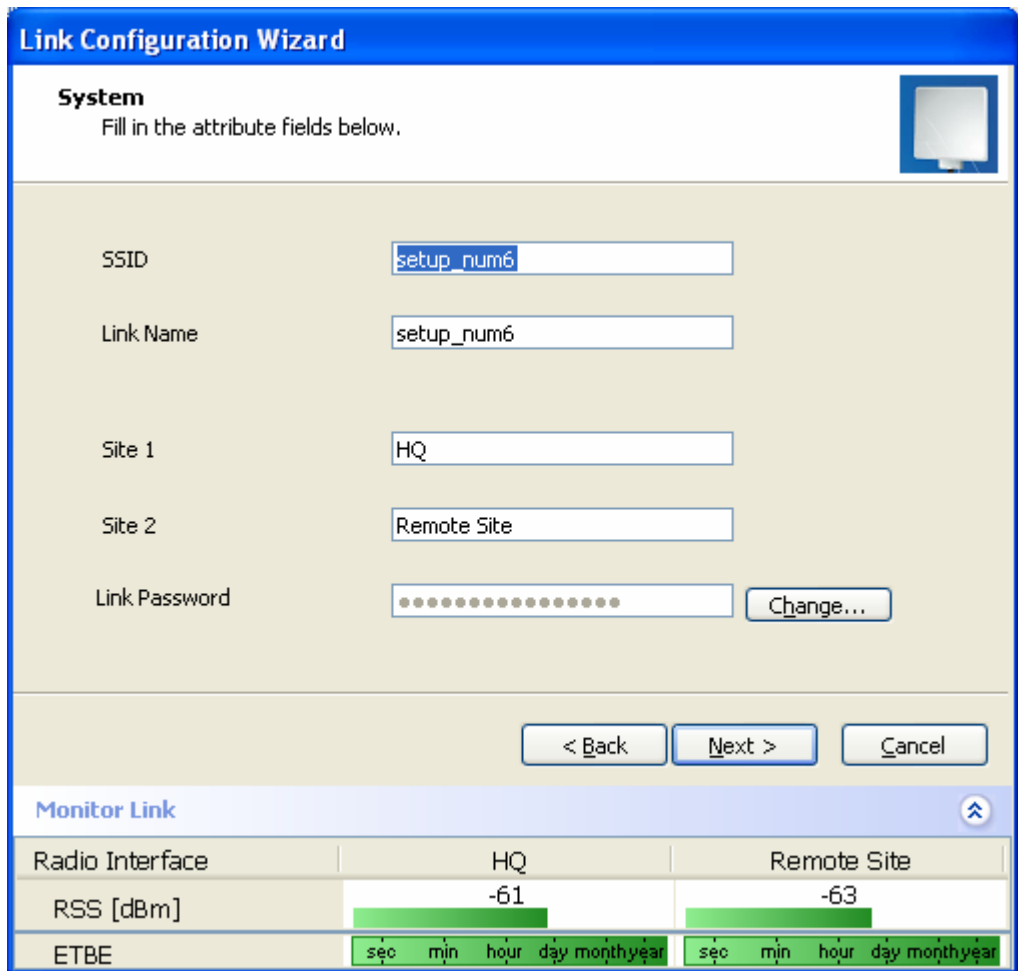

Figure 4-2. Link Configuration, System dialog box
4. The Link Configuration dialog box appears (see Figure 4-2).